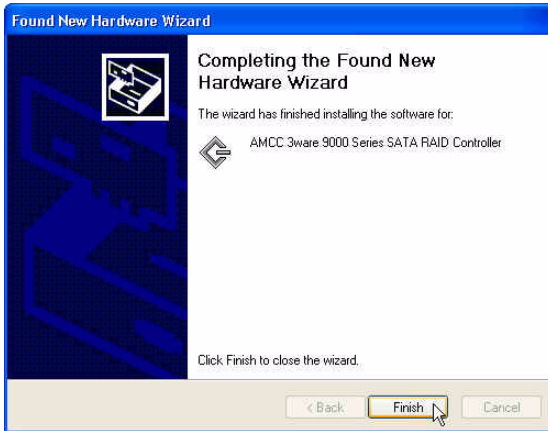

Figure 22. Completing Found New Hardware Wizard
- 4 When the Completing the Found New Hardware Wizard screen appears (Figure 22), click **Finish**.
- 5 If the “Completing” screen similar to Figure 22 indicates that you should restart your computer, do so now.